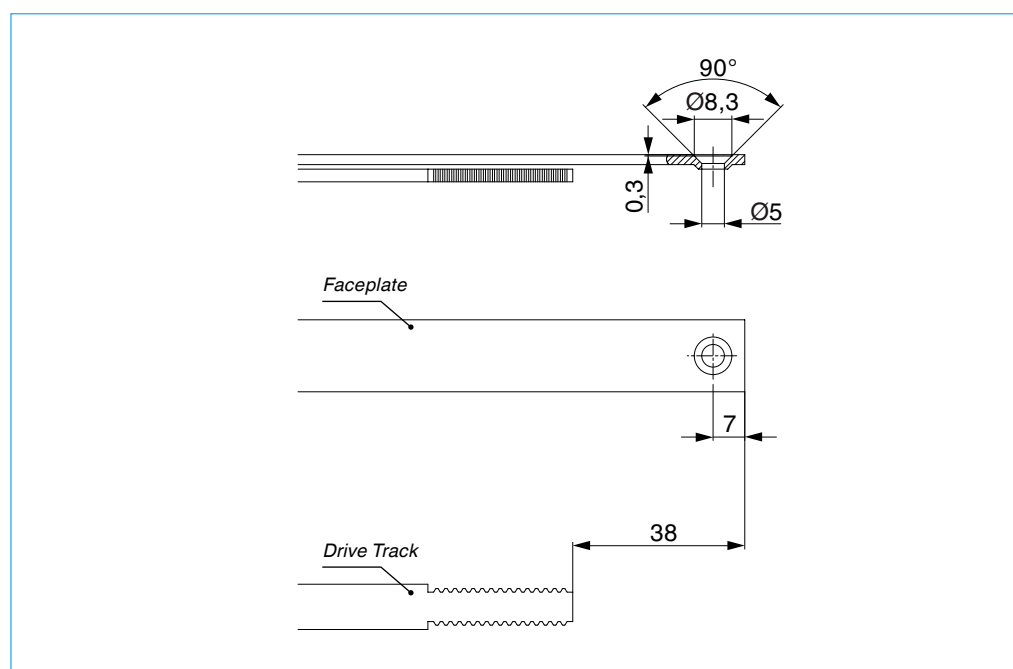

Fig. 1
- Install the **Tilt-Only stay-arm housing** (5)
Mark the Tilt-Only stayarm's notch (Fig. 1, (1)) on the frame with a pencil, line up the
Tilt-Only stayarm housing's mark with the notch and mount (Fig. 1, (2)).